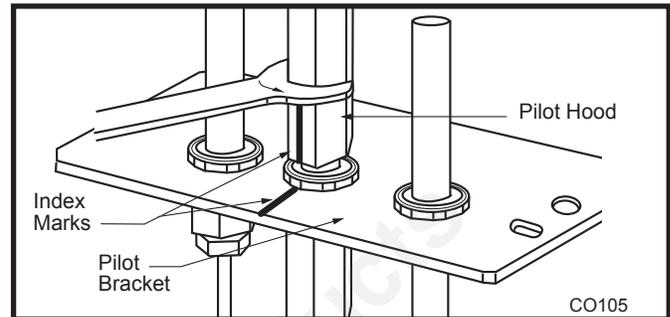

Fig. 76 Remove pilot hood.
- Loosen pilot hood turning counterclockwise using a 7/16" wrench. (Fig. 76)